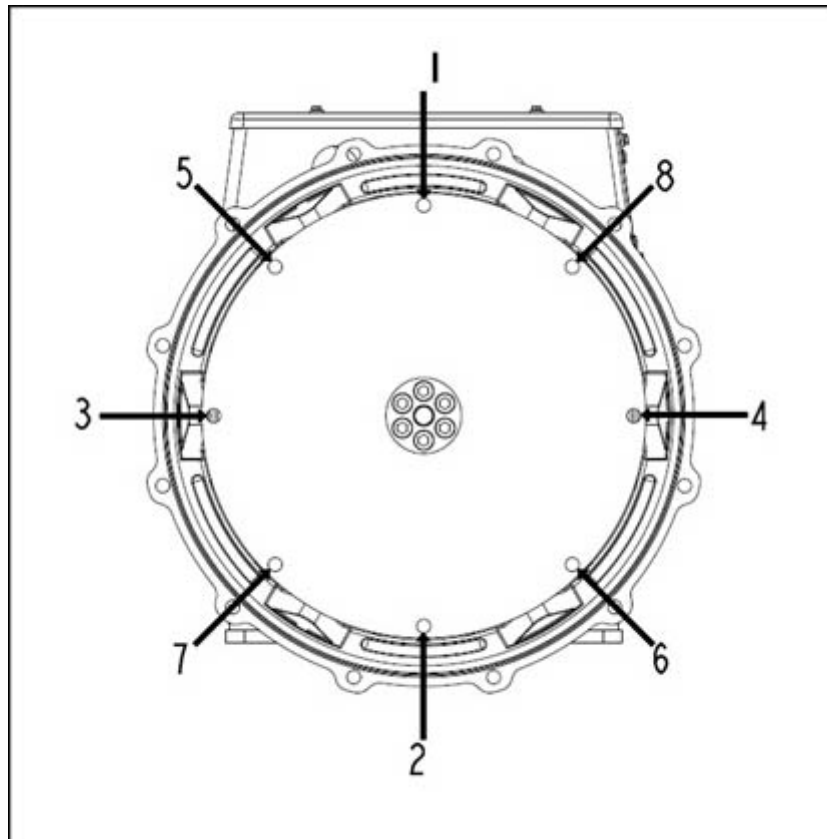

FIGURE 23. FIXING SEQUENCE TO FLYWHEEL
10. Tighten the bolts to fix the coupling disc to the flywheel, in the sequence shown in Figure 23 on page 40.